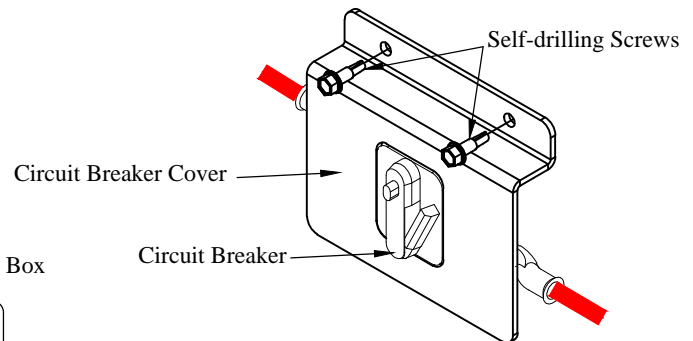

Figure 14: Circuit breaker cover.
15. **Attach** the circuit breaker cover using the supplied self-drilling screws (Figure 14).